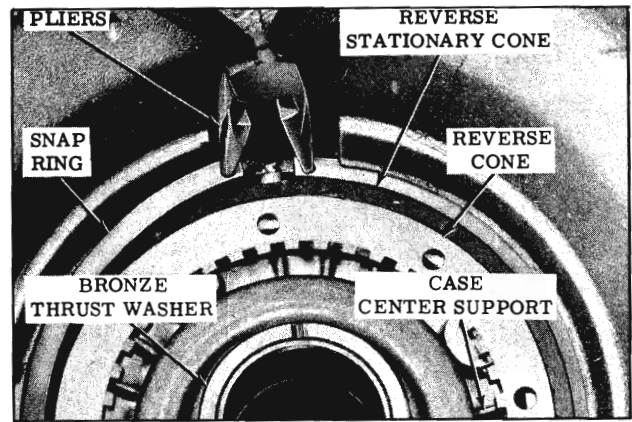

Fig. 3-293 Case Center Support Thrust Washer
10. Install case center support to front internal gear bronze thrust washer into the front clutch housing. Retain with petrolatum. (Fig. 3-293)